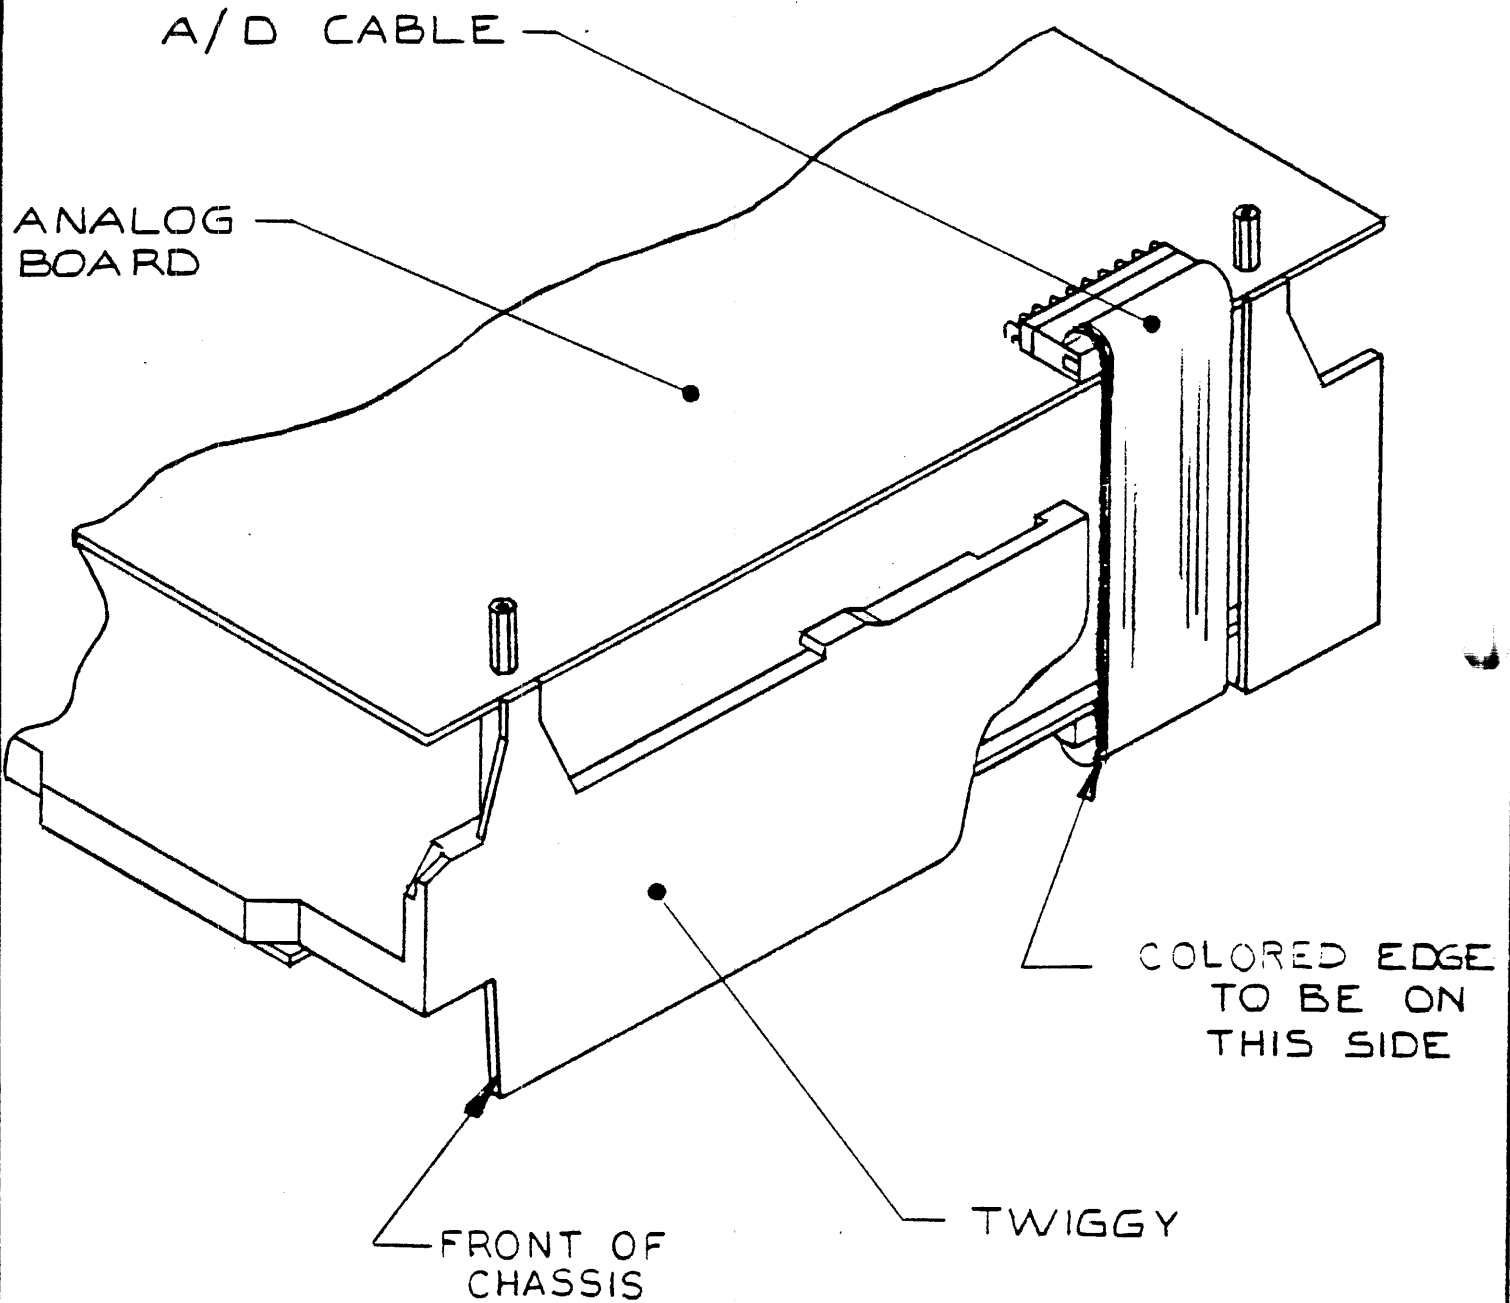

FIGURE 4. THE INSTALLATION OF THE ANALOG TO DIGITAL CABLE,
- 7.3.5 Connect the analog to digital cable to the J1 connector on the analog board so that the colored edge is lined up with pin #1 on the board. Connect the other end of the cable to the J4 connector on the digital board, so that the colored edge also lines up with pin #1. (The colored edge will be closest to the front of the chassis.) (See Fig. 4.)